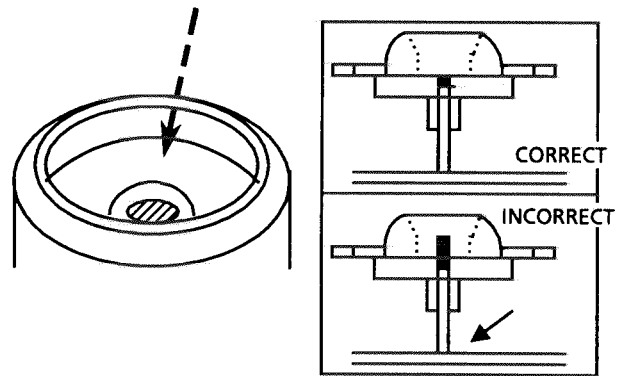

Fig. 45
- (32) After inserting the turntable, bond the motor shaft and turntable together (at the section marked by an arrow in fig 45 on the left below).
Be extremely careful not to allow bonding agent to adhere to the motor bearing (the section marked by an arrow in fig. 45 on the right).